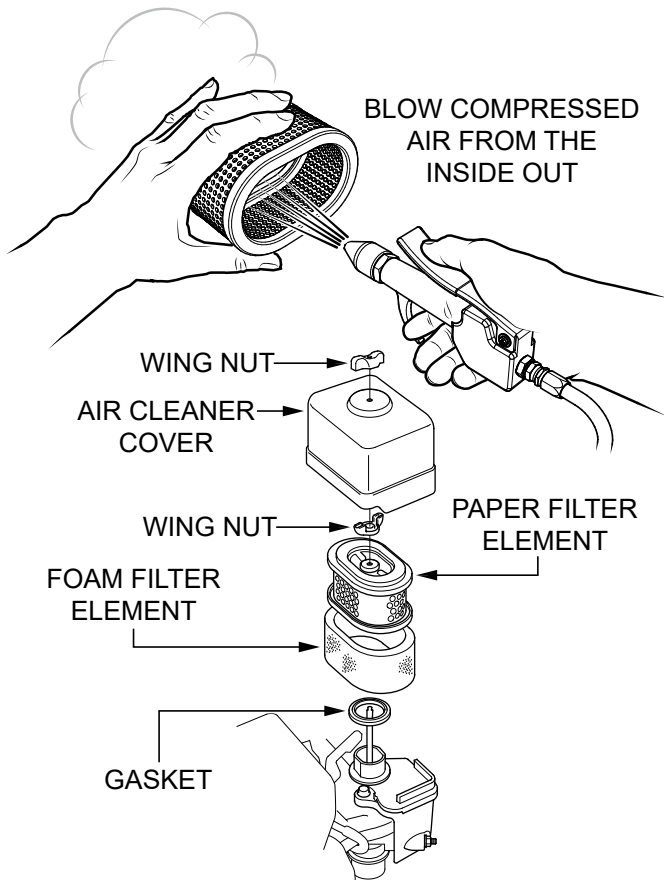

Figure 34. Engine Air Cleaner
1. Remove the **wing nut** from the **air cleaner cover**, then remove the cover (Figure 34).
2. Remove the **wing nut** from the air filter assembly (**paper filter element** and **foam filter element**), and remove the air filter assembly. See Figure 34.
7. Place the foam air filter element over the paper element, and reinstall the air filter assembly. Make sure the **gasket** (Figure 34) is in place beneath the air filter assembly. Tighten the air filter wing nut securely.